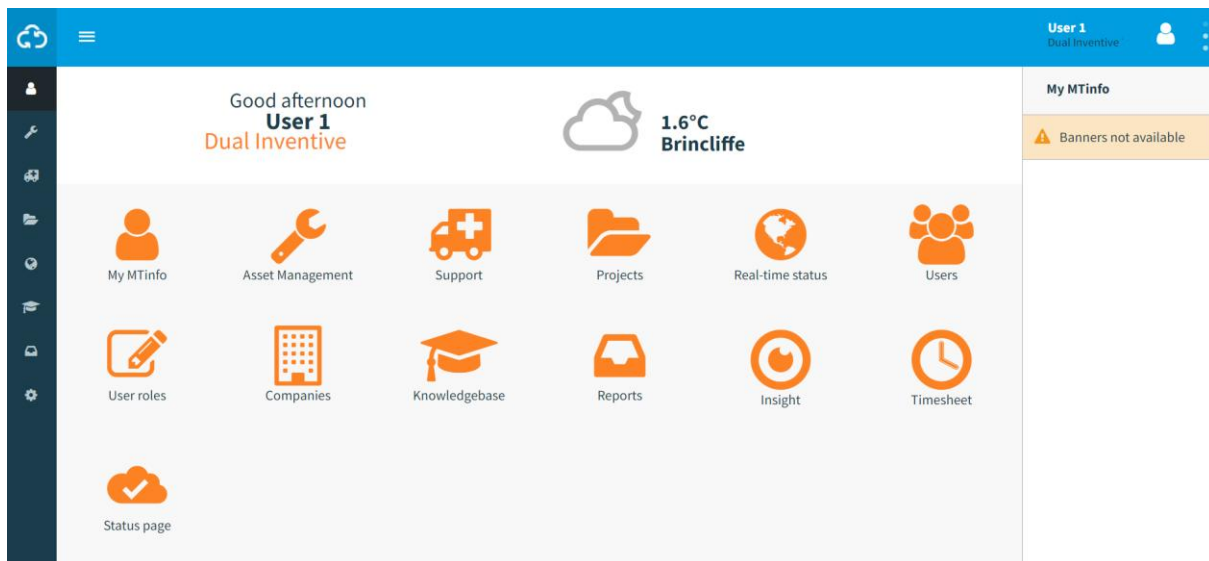

Figure 10 Dashboard
1. Go to the Dashboard (Figure 10) and click Companies.